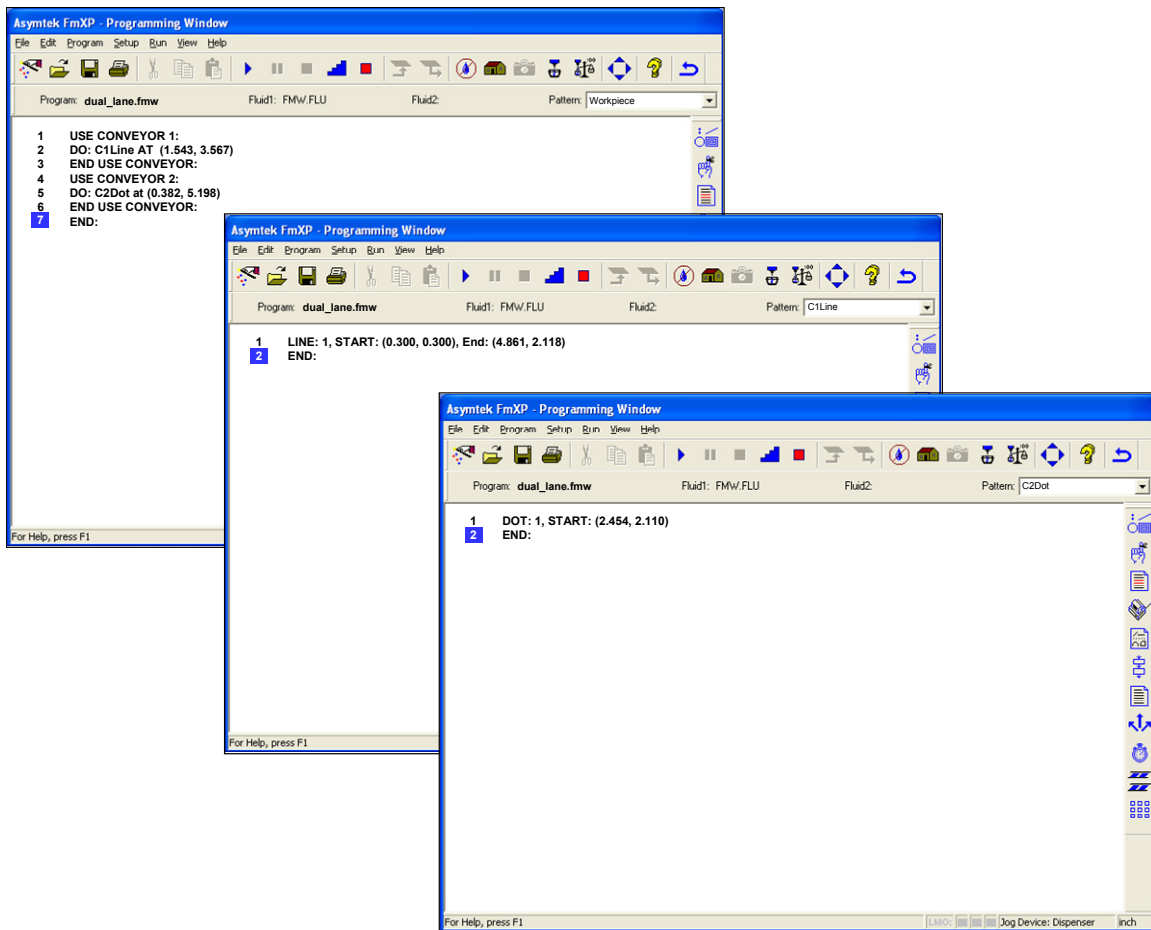

Figure 3-12 Placing Patterns
6. Sample program screens are shown in Figure 3-12.